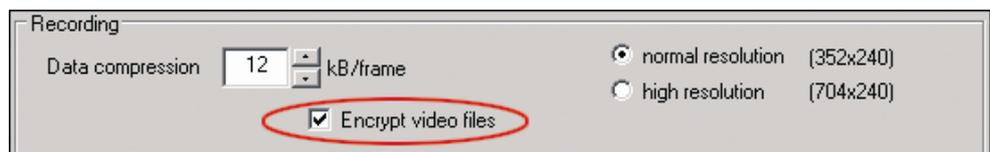

Fig. 90 *Encrypt video files* checkbox on the *System* tab
2. Mark the checkbox **Encrypt video files** (see "Fig. 90 ", *page 97*).